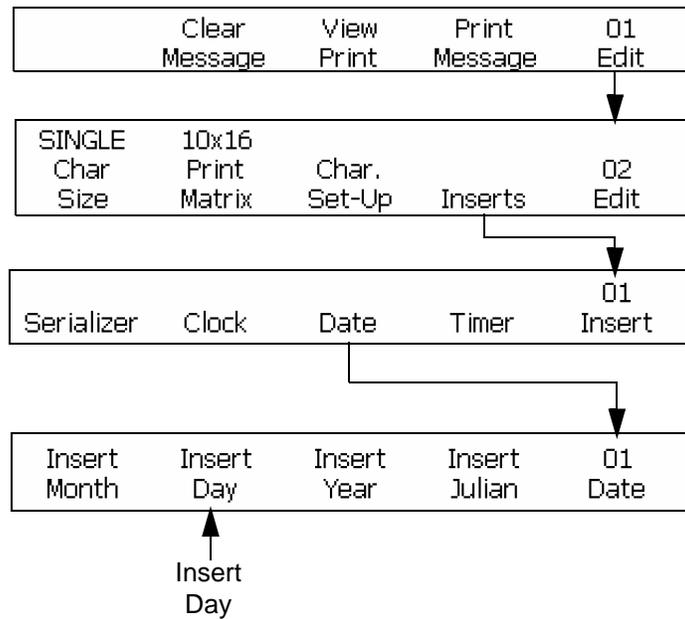

Figure 6-31: Accessing Frame <01 Date>
- 1 Begin in the Frame <01 Date>. Refer to Figure 6-31 on page 6-38.